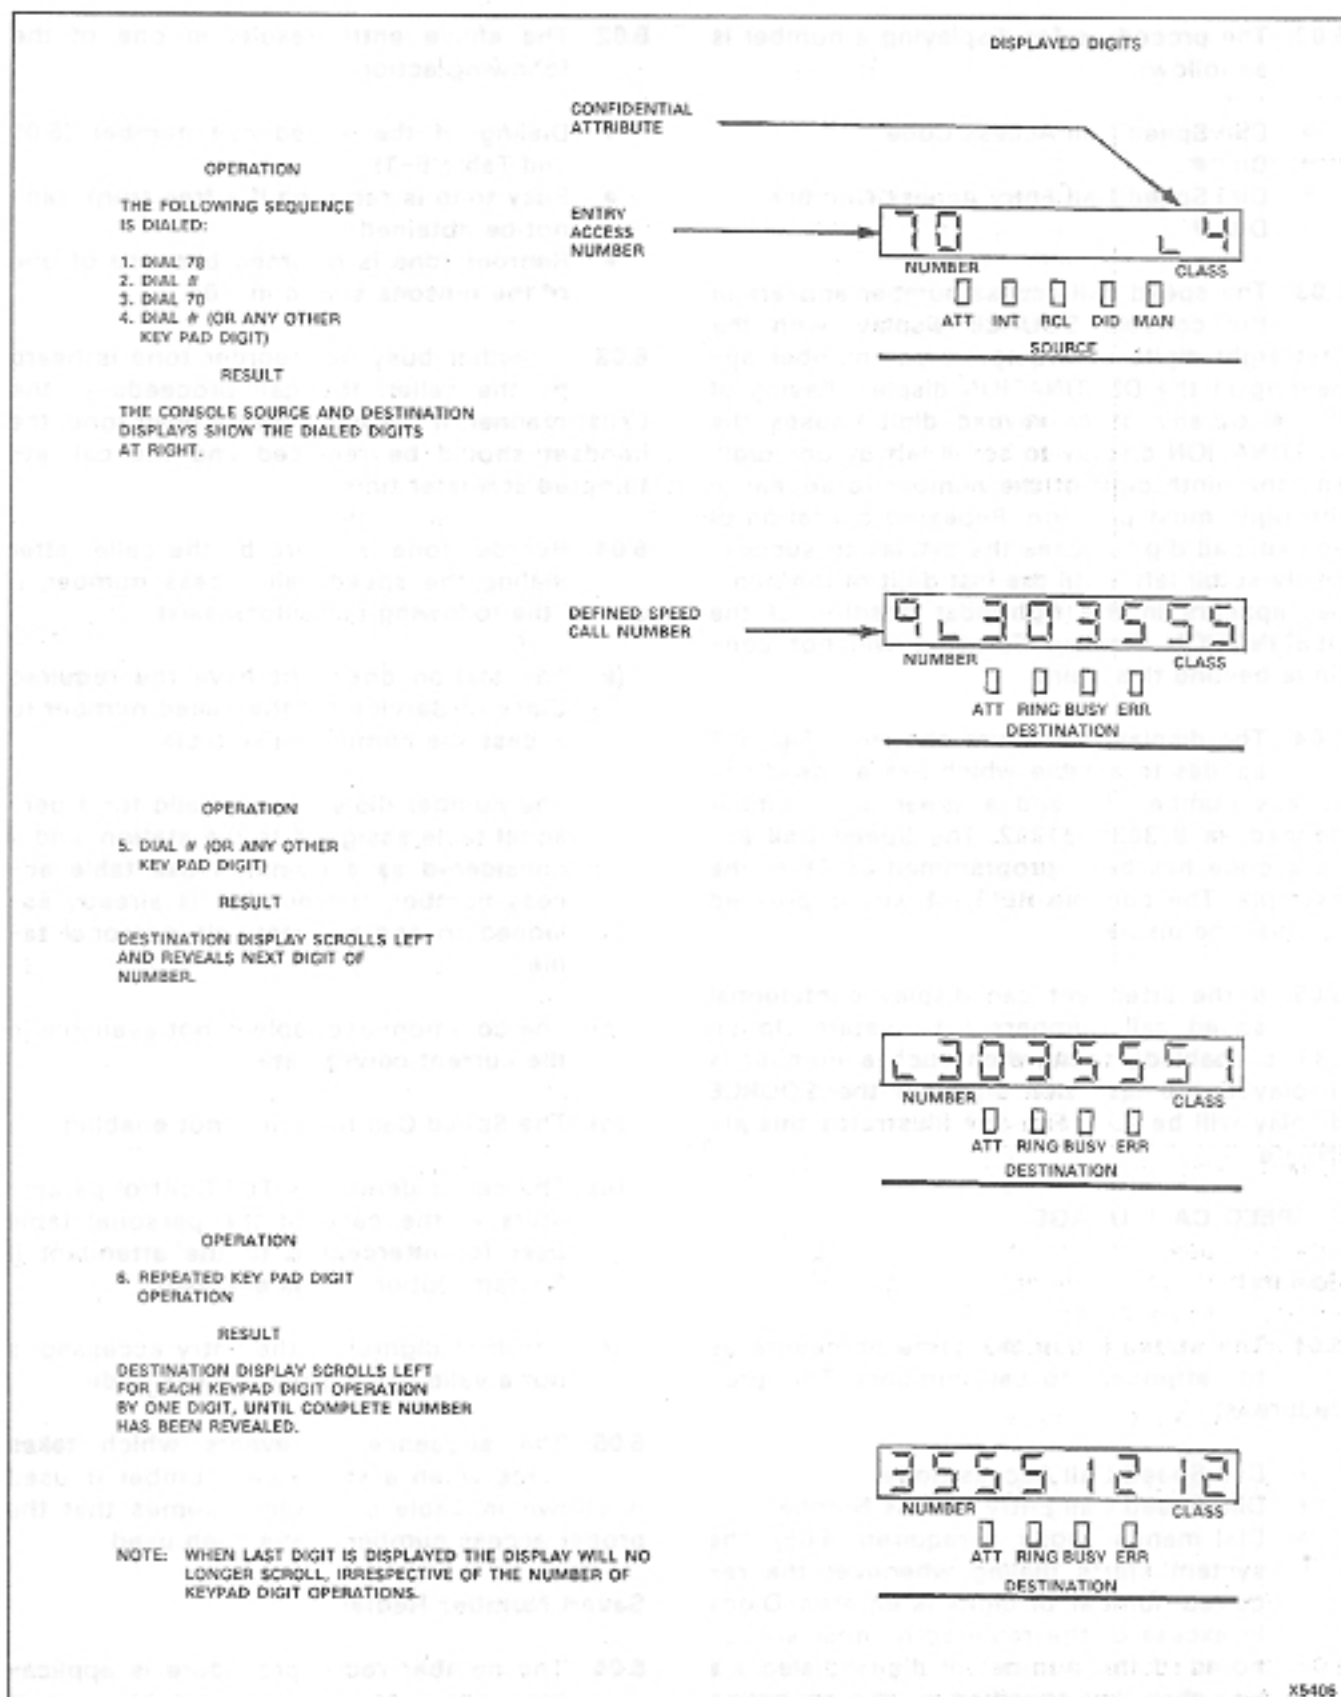

Fig. 5-1 Speed Call Number Display Example
5.04 The display procedure shown in Fig. 5-1 applies to a table which has a speed call access number 70, and a speed call number defined as 9*3035551212. The Speed Call access code has been programmed as 78 in the example. The console RELEASE key is pressed to clear the display.
5.05 If the attendant can display confidential speed call numbers (i.e. System Option 289 is enabled), then when such a number is displayed the last two digits in the SOURCE display will be "L4". Fig. 5-1 illustrates this attribute.